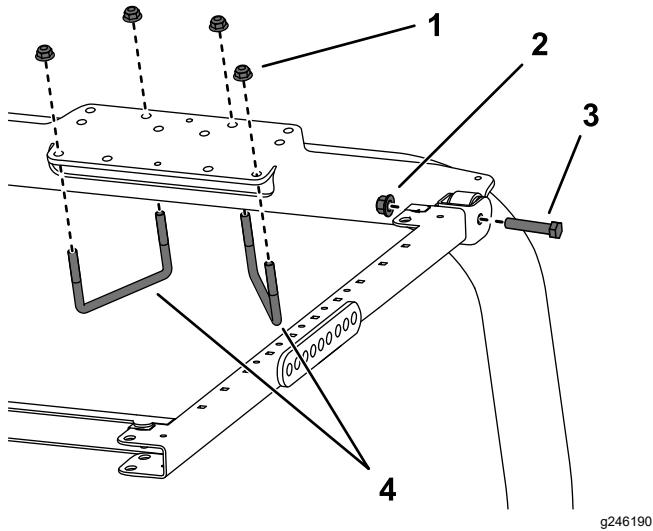

Figure 31
- Position the ROPS-mount bracket onto the top of the traction unit roll bar (Figure 31). Make sure that the roll bar is centered in the ROPS-mount bracket.
- Using the mounting holes shown in Figure 31, secure the ROPS-mount bracket to the top of the roll bar with 2 U-bolts (4-1/2 x 2-3/4 inches) and 4 flange nuts.